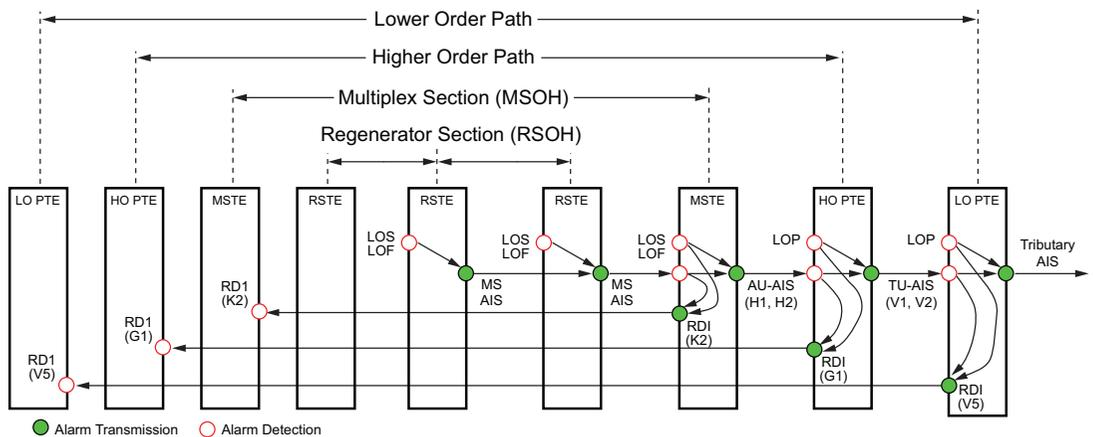

Figure 4-7. SDH Network Alarm Detection and Transmission
In the yellow rectangle viewing area above the Rx Signal/Event List display, historical (H) and current pass/fail conditions for parameters relating to Receive (Rx) Signal, Path, and Multiplex Section are reported. For Rx Signal, the parameters are LOS, LOF, and OOF. For Path, the parameters are AU-AIS (Alarm Indication Signal), HP-RDI (Remote Defect Indicator), and AU-LOP (Loss of Pointer). For the Multiplex Section, the parameters are MS-AIS and MS-RDI. SDH defects, errors, and alarms are shown in Figure 4-7.